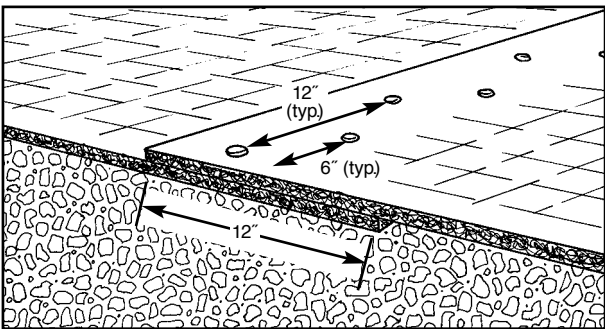
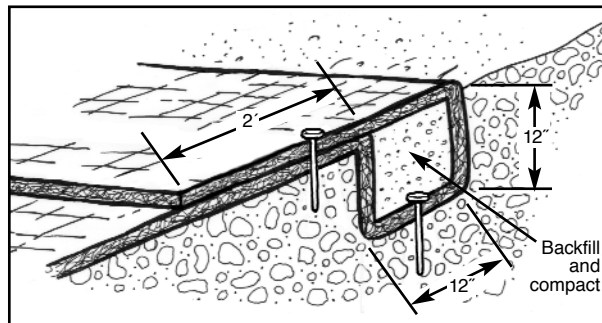

FIGURE 8 Overlap at roll end
FIGURE 11 Terminal anchor trench (upstream) detail
- Roll end: 12 in (300 mm) minimum with upstream mat on top. Secure with two rows of ground anchoring devices staggered 12 in (300 mm) minimum apart on 12 in (300 mm) minimum intervals (see Figure 8).
- ▶ Excavate terminal anchor trench 12 in wide x 12 in deep (300 x 300 mm) minimum across the channel at the upstream end of the project (see Figure 11). Deeper terminal anchor trench is needed in channels that have the potential for scour.
- ▶ Anchor, backfill and compact upstream end of mat in 12 x 12 in (300 x 300 mm) minimum terminal anchor trench (see Figure 11). Unroll mat in downstream direction over compacted trench with a minimum 2 ft (600 mm) lap. Secure with anchors in accordance with Figure 8.
NOTE: If you encounter roll with factory overlap, install factory seam such that it shingles in the direction of the flow of water. Place anchoring devices in accordance with Figure 8 "Overlap at roll end" on page 5.